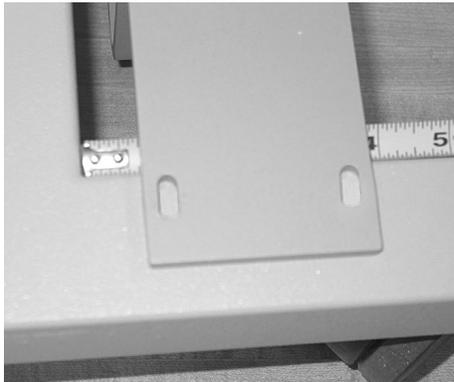

Figure 3.20
3. Place tape measure under bracket. Slide bracket back 3/4" from the edge of the "H" cross piece. (Figure 3.20)